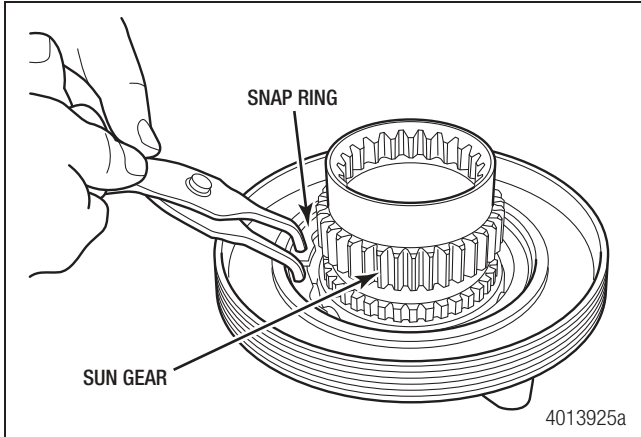
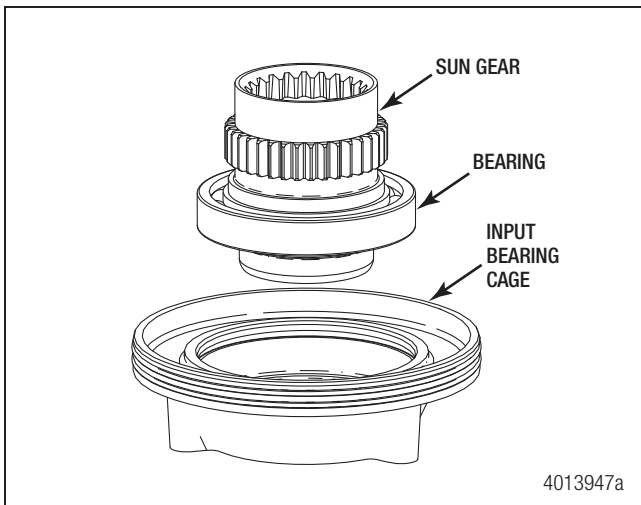

Figure 6.6
Figure 6.7
1. Place the bearing cage upside down on a workbench. Use snap ring pliers to remove the large snap ring that secures the sun gear to the bearing cage. Separate the sun gear and bearing from the cage. Figure 6.6 and Figure 6.7.